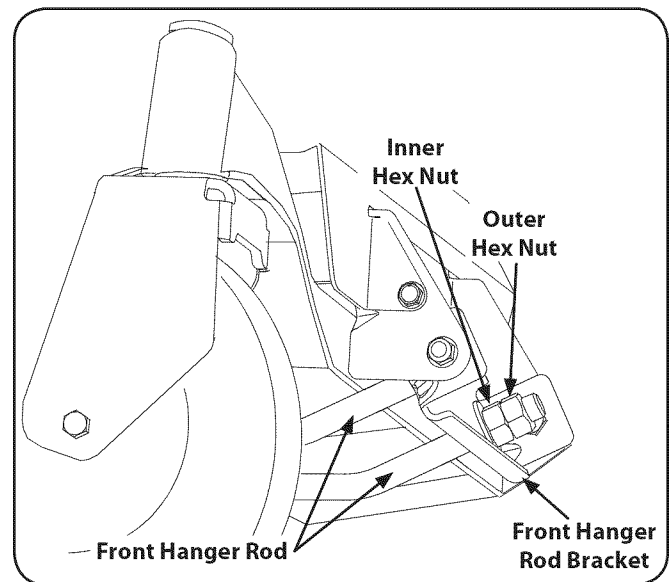

Figure 6-7
5. From the front of the tractor, loosen the outer hex nuts on the deck front hanger rod and turn them away from the inner nuts. Refer to Fig. 6-7.
6. If the front of the deck was too low, turn the inner hex nuts clockwise against the hanger bracket to shorten the front hanger rod and raise the front of the deck. Refer to Fig. 6-7.